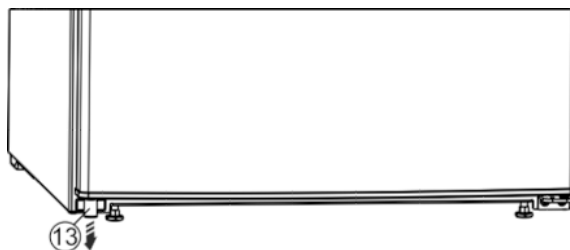

Fig. 4
- ▶ Remove the spacer Fig. 4 (13) from under the left-hand side of the door.